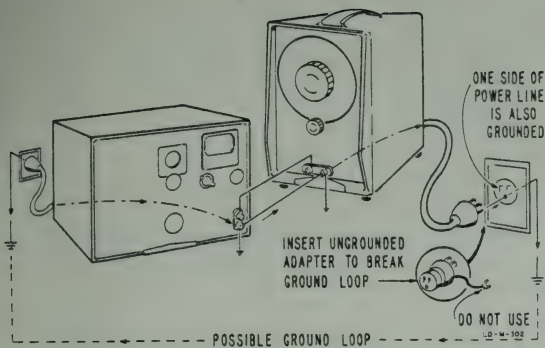

Figure 2-3. Breaking a Ground Loop
c. When measuring low-level signals, accuracy of the measurement may be affected by ground current. A ground loop can be completed via the ground conductor of the signal pair and the power-line ground when the instruments in a setup are connected to power-line ground. To restore accuracy of measurement, open the ground loop by connecting only one instrument directly to power-line ground through a NEMA (three-prong) connector. Connect any other instrument in the setup to the power source through an ungrounded adapter. See figure 2-3.